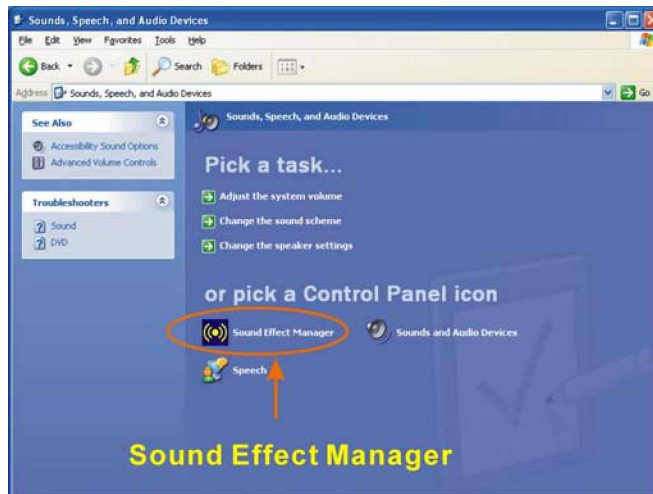

Figure E-3: Sound Effect Manager Icon [Control Panel]
- „ The Sound Effect Manager icon in the Control Panel (**Figure E-3**).